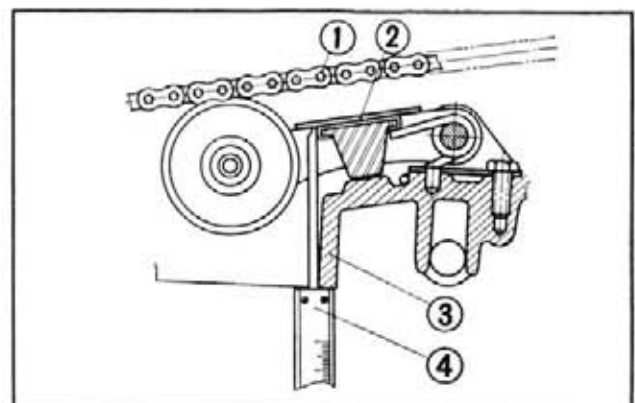

Fig. 3-90 ① Primary chain ② Primary chain tensioner ③ Lower crankcase ④ Vernier caliper
- c. Measure the distance between the primary chain tensioner bracket and the oil pan mounting flange (Fig. 3-90) with the vernier caliper.